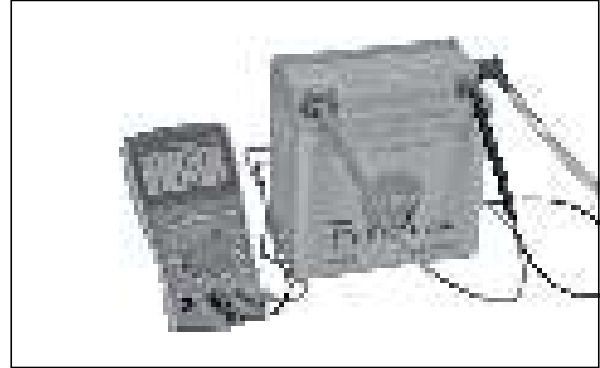

Fig. 5.91
- Measure the open circuit voltage of battery using pocket tester. (Fig. 5.91)